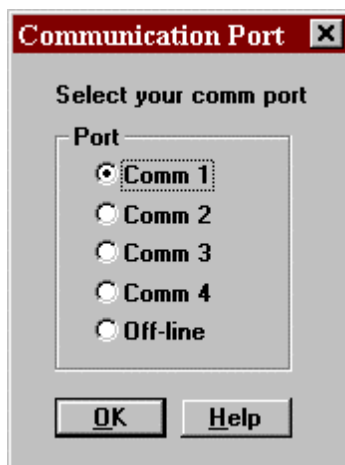

FIGURE 4.4 Communication Port Dialog Box
Off-line Mode is activated when the PC communications port is not connected to a drive, the drive is not powered on, or the user has selected **Off-line** in the *Communications Port* dialog box (FIGURE 4.4).
- ❑ Select OFF-LINE mode from the *Communication Port* dialog box (FIGURE 4.4). Then click the **OK** button.